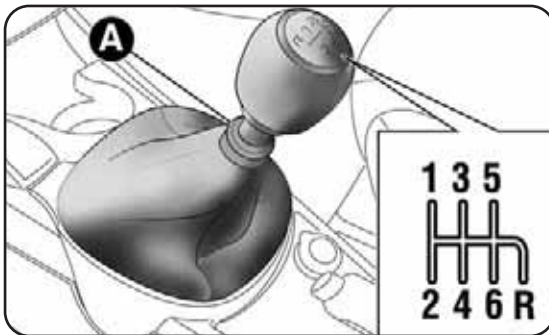
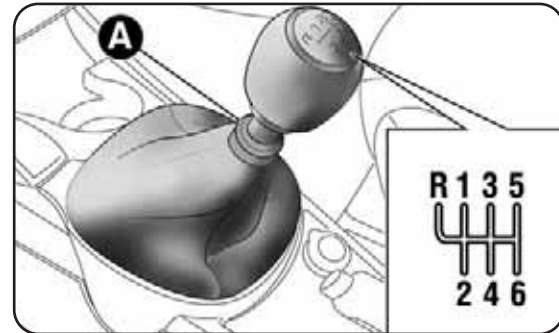
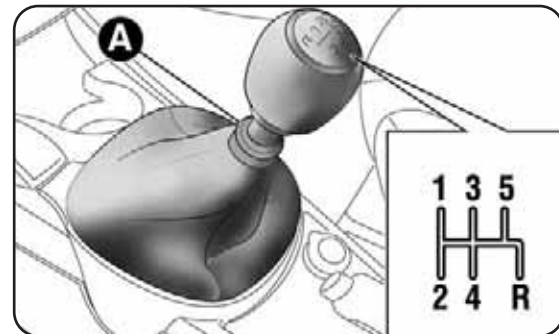

fig. 2 1.4 Petrol, 1.4 Multi Air versions
fig. 3 1.4 Turbo Benzina 155HP,
fig. 4 1.4 Turbo Benzina 120HP,
To engage the gears, press the clutch pedal fully and shift the gear lever into one of the required positions (the diagram for engaging the gears is shown on the knob (fig. 2, fig. 3 and fig. 4). In models with 6 gears, to engage 6th gear, move the gearstick to the right to avoid changing into 4th by mistake. The same goes for changing from 6th to 5th.
To engage reverse (R) from neutral, lift ring A up (fig. 2, fig. 3, fig. 4) from beneath the knob and at the same time: